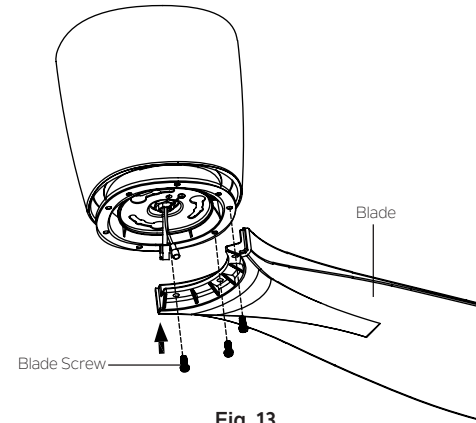

Fig. 13
**Step 1.** Attach the fan blades to the flywheel using the blade screws and tighten them securely. (Fig.13)